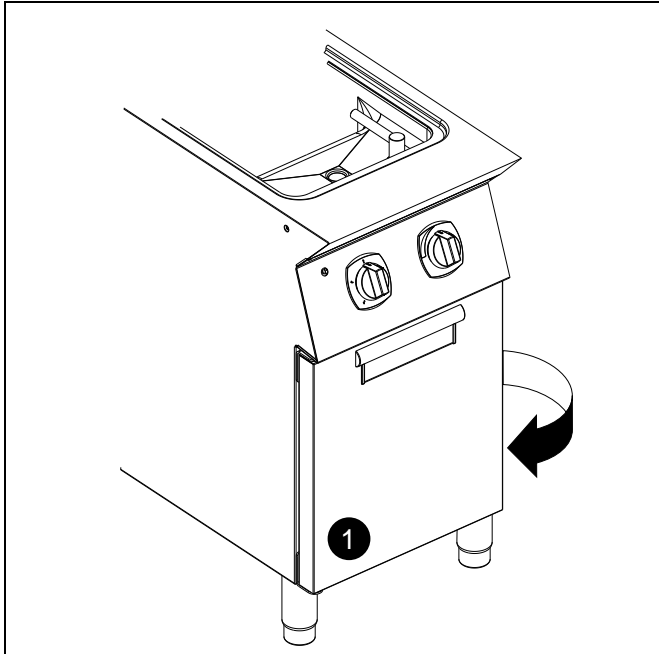

FIG. 1
2. Remove screw "N" from the pressure point (see FIG. 1);
1. Open the module door to access the terminal board (see detail 1 — FIG. 1).